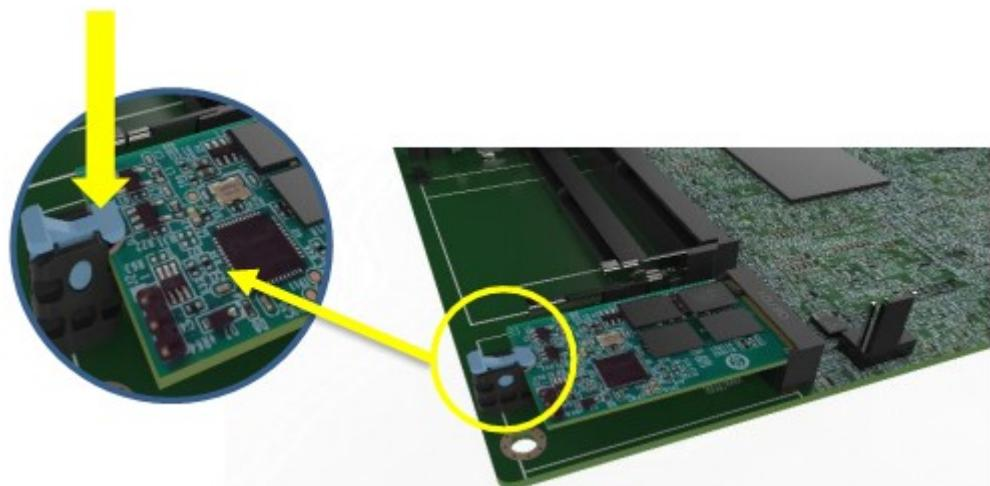

Figure 4-12: Aligning the M.2 Module with the Retainer
- Step 3:** Align the notch on the end of the M.2 module with the clip of the retainer. (See **Figure 4-12**)